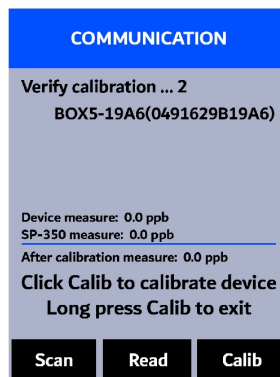

Figure 15.
13. The SP-350 will take the sensor PTSA measurement three times to verify the calibration (Figure 15).